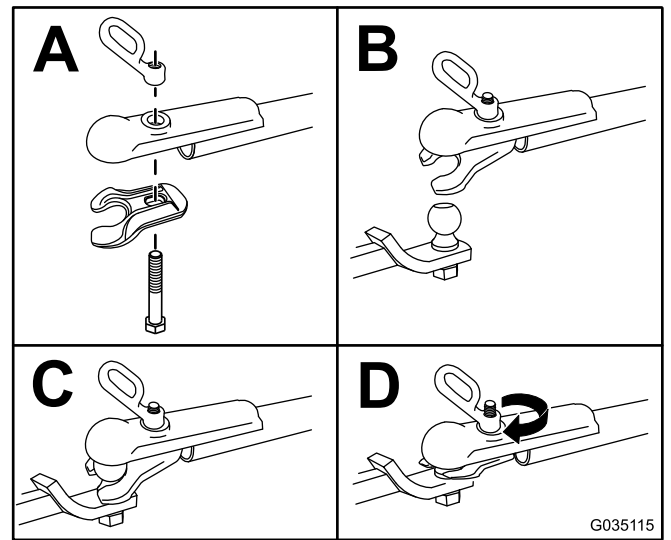

Figure 15
3. Hitch the machine as shown in Figure 15.